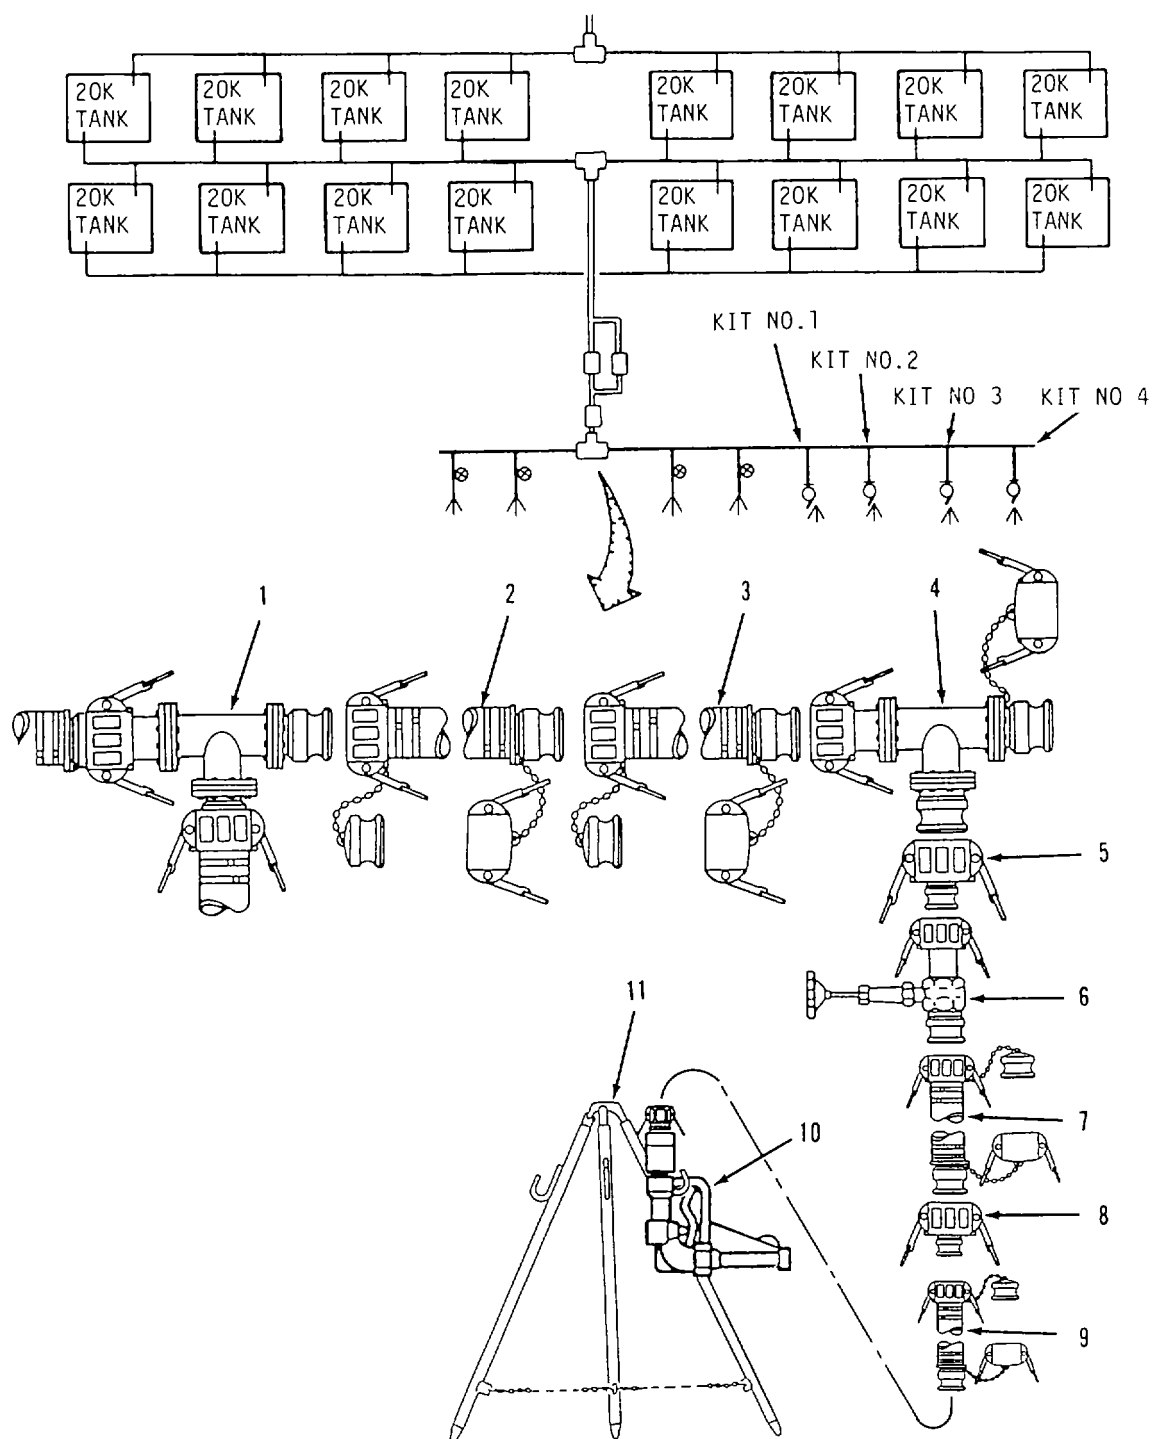

Figure 2-20. Hose Nozzle Connection Kit.
- m. Assemble Hose Nozzle Connection Kits. Refer to figure 2-20.